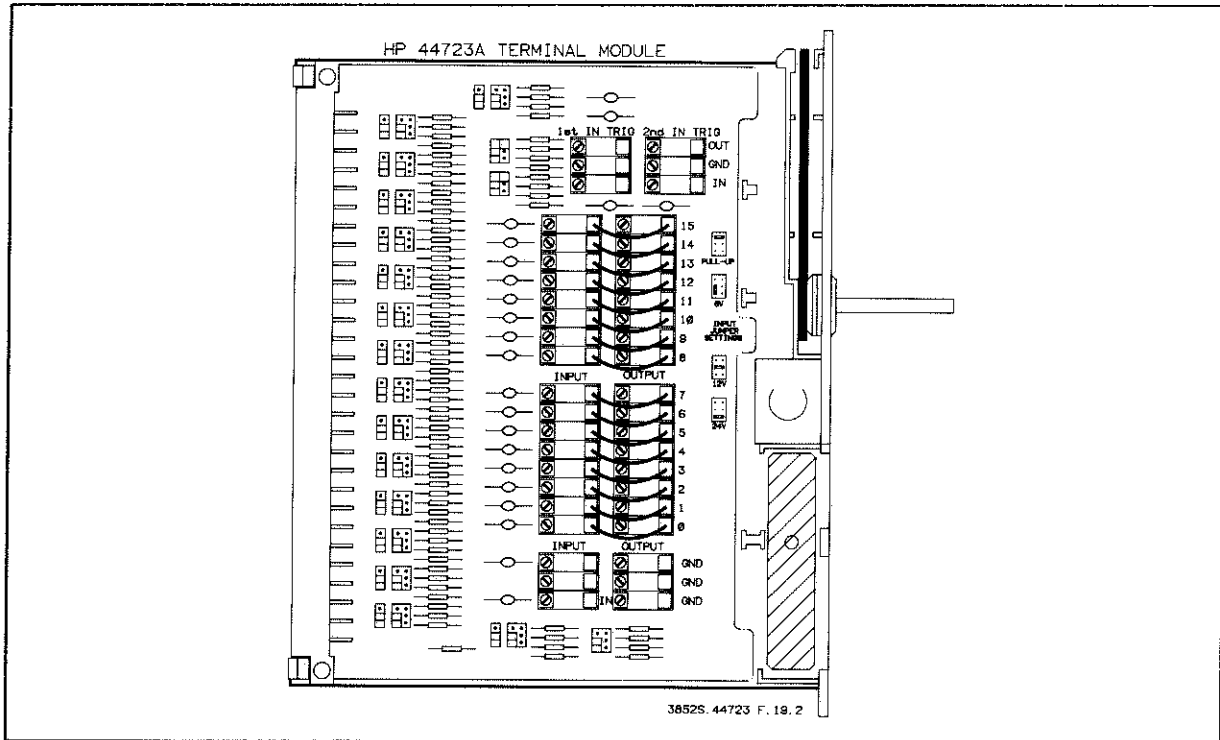

Figure 19-2 HP 44723A Test Fixture
A test fixture is required to run the Performance Tests. The test fixture can be manufactured using an HP 44723AT terminal module. The test fixure is shown in Figure 19-2.
On the test fixture, the output of each channel is connected to the corresponding input of the channel. All Input Jumpers are set to the 5 V position. The test fixture configuration is shown in Figure 19-2.
2. Make sure the output of each output channel is connected to its corresponding input channel, as shown in Figure 19-2. Make sure that all output and input jumpers are selected for +5 V TTL, as shown in the figure. It is important that the jumpers are in the correct positions, or the test will fail.